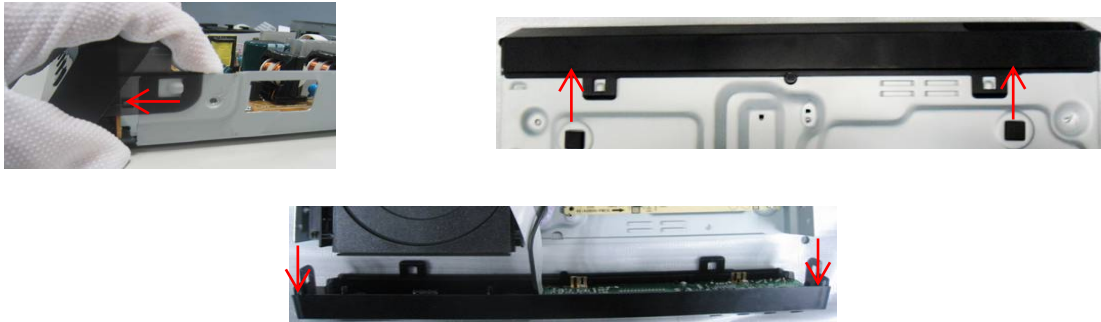

Figure 3
Step3 :Dismantle Front Panel, disconnect the connectors (XS604 XPS605 ,XP8), need release 2 snaps of Front Panel & 2 snaps of bottom cabinet , then gently pull the Panel out from the set. (Figure 3)